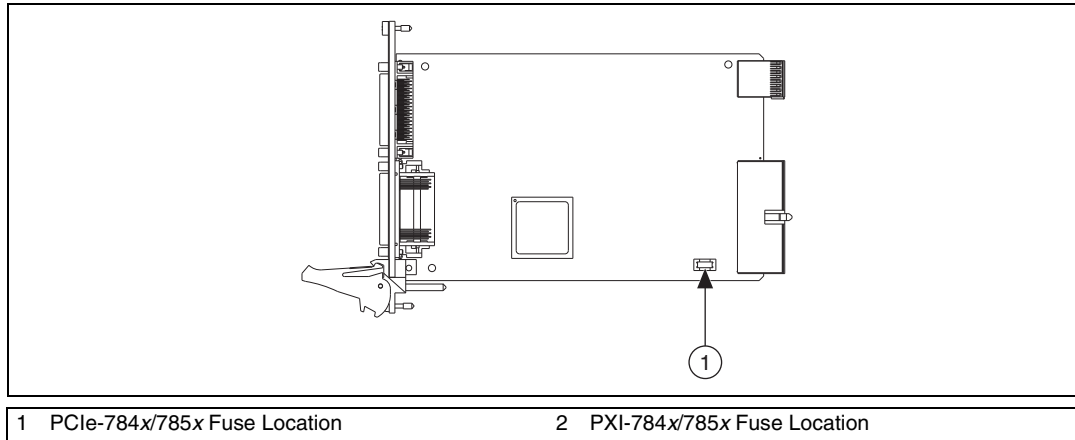

Figure 2-18. NI 784x/785x Replacement Fuse Location
3. Replace the blown fuse while referring to Figure 2-18 for the fuse locations.